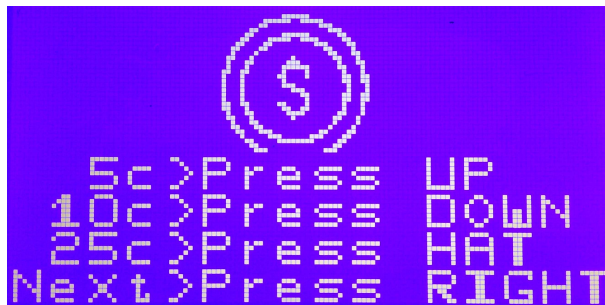

Fig 1: Put Coin Screen(Initial)
- Instructions for coin entry and mapped switch presses should be displayed on screen.(As in Fig 1)
Handles all input switch press detection. Use Switch debouncing to accurately detect switch press. Since switch behaviour is different in different states, define switch behaviour accordingly in different states. Ex: UP Switch denotes Dime Enter in *COIN* state(Fig 1), but cancels transaction in *SELECT* state(Fig 5).
in *COIN* state(Fig 1), and Select Soda Screen in *SELECT* state(Fig 5) are state-dependent.